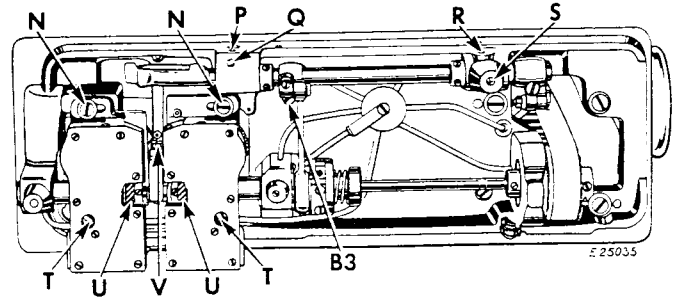

Fig. 18
needles. Loosen the four screws **N,N** and **T,T**, Fig. 18 underneath the bed of the machine and move the hook saddles to the right or left, as may be required, until the points of the hooks are as close to the needles as possible without striking them, then securely tighten the four screws **N,N** and **T,T**.
**CAUTION:** Make sure hook driving gears **U**, Fig. 18 are set correctly with relation to face of hook saddle. Use .008 shim.
The feed rock shaft is carried in split bushings which can be adjusted to take up any wear which may occur. Loosen the two lock screws **Q** and **R**, Fig. 18 and turn in the two adjusting screws **P** and **S**, Fig. 18 until all lost motion of the rock shaft has been eliminated, then securely tighten the lock screws **Q** and **R**.
Remove the throat plate; clean the lint and dust from between the feed points and replace the throat plate; tip the machine back and turn the machine pulley towards you until the feed dog is at its highest position; loosen screw **V**, Fig. 18 in the feed lifting cam fork and raise or lower the feed dog, as may be required. Then tighten the screw **V**.
The feed dog should be set so that when the needles are down, they will be slightly in front of the center of the needle holes (toward the operator). In case the needles do not enter the holes in the feed dog correctly, loosen the pinch screw **B3**, Fig. 18 and adjust the feed dog as required, then securely tighten the pinch screw **B3** and check the relative position of the needle and presser bars as instructed on page 10.